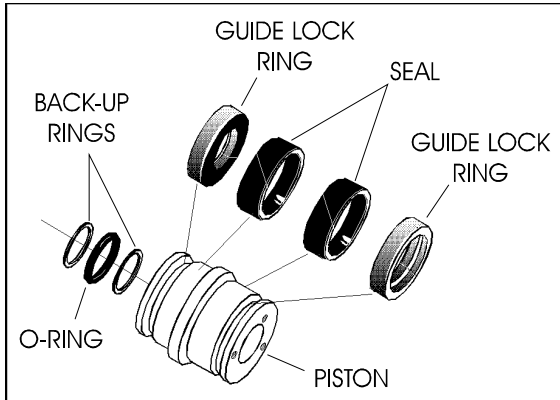

Figure 5-10. Piston Seal Kit Installation
10. Place new guide locks and seals in the applicable outside diameter grooves of the cylinder piston. (See Figure 5-10., Piston Seal Kit Installation).